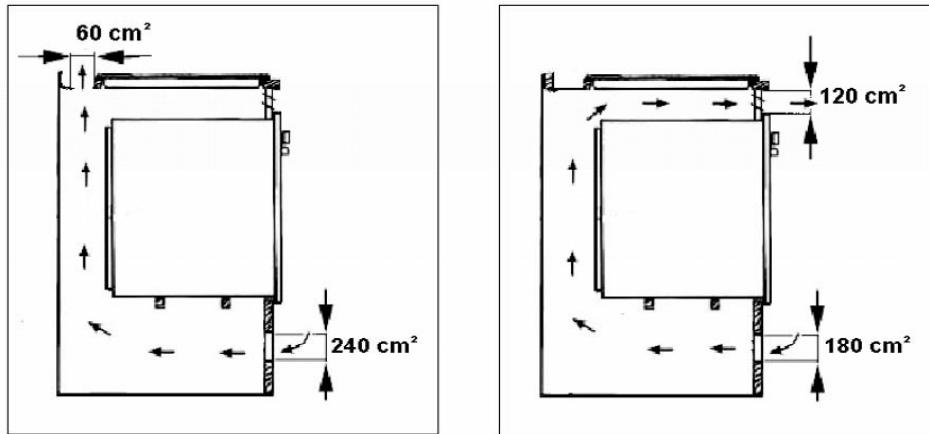

Fig.8
- ☞ Fix the cooktop to the worktop using the special brackets supplied (A), as shown in fig. 8. Correct installation of the sealing gasket (C) ensures complete protection against infiltration of liquids.
- ☞ The brackets must be fixed in the holes mark to you from the fig. 8